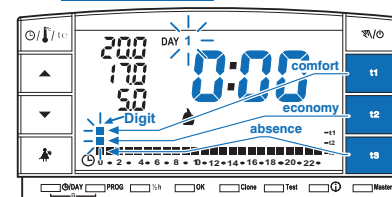

fig. 9
The two digits **t1** and **t2** will appear blinking on the display, referring to the hour **0:00** and number **1** corresponding to the day **Monday** (fig. 9).
- Temperature and hour selection (blinking digit) is set by pressing the corresponding key (**t1**, **t2** and **t3**) (fig. 9).